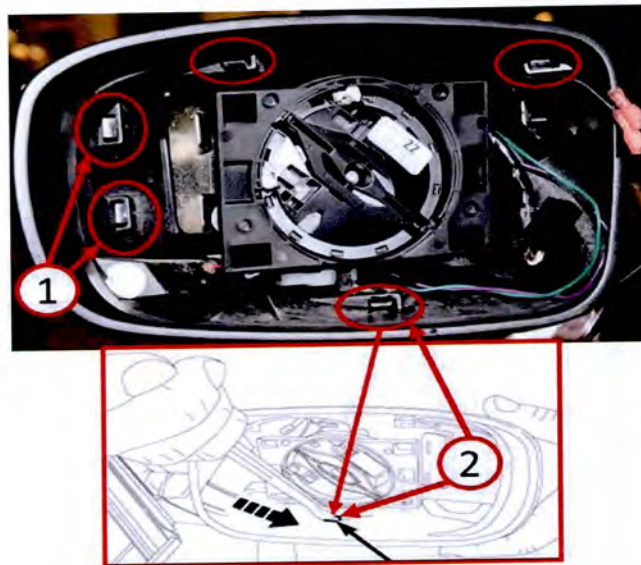

Fig. 3 Mirror Outer Shell Removal
8. Using a flat head screw driver, pliers or equivalent, disengage the mirror shell cap outboard retaining tabs (1) (Fig. 3).
9. Using a flat head screw driver, apply downward pressure to the bottom retaining tab (2) (Fig. 3).